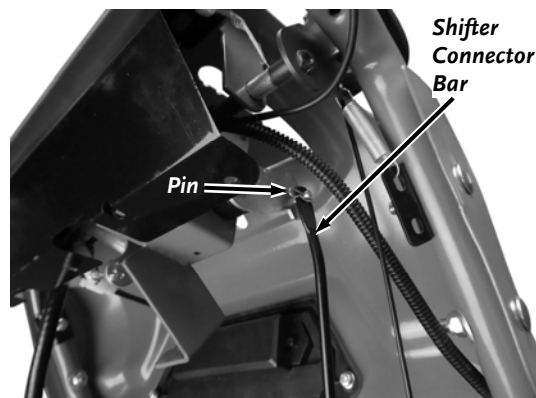

Figure 13
10. Remove the Pin and install the upper end of the Shift Connector Bar (**Figure 13**).